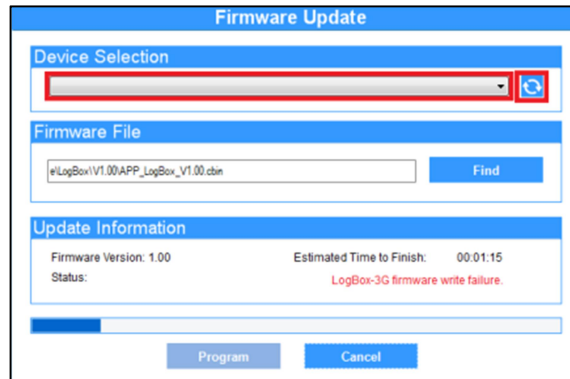

Fig. 52 – Firmware failure
- d. If **NXperience** has been closed and/or it is no longer possible to find the device on the update screen, as shown in Fig. 52, it is necessary to close the **NXperience**, turn off the **LogBox 3G** and reconnect the device to the USB interface for a new attempt.